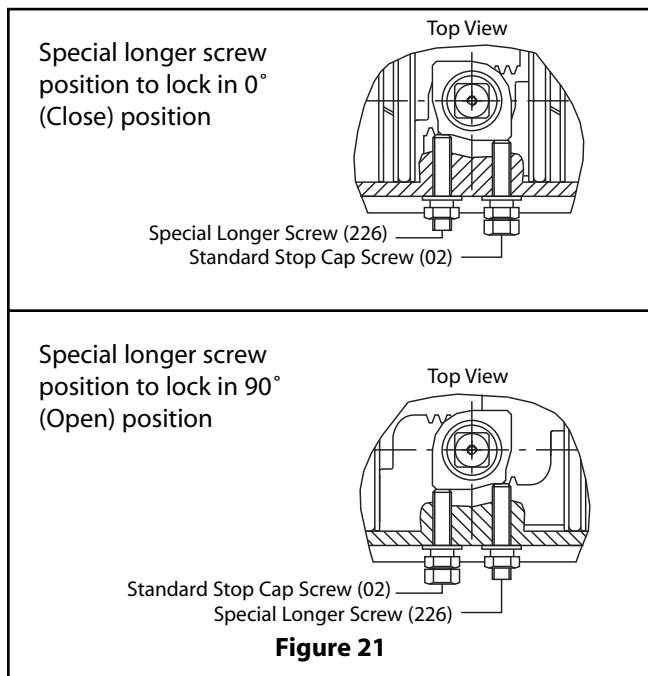

Figure 21
- A. Before inserting the special longer screw (226) or the standard screw (02) into the actuator body, check what stop position is required? If the stop position is fully close (0°) or fully open (90°), see (Figure 21). Note, when the stop screws are inserted into the actuator body, the actuator must be at the desired position.